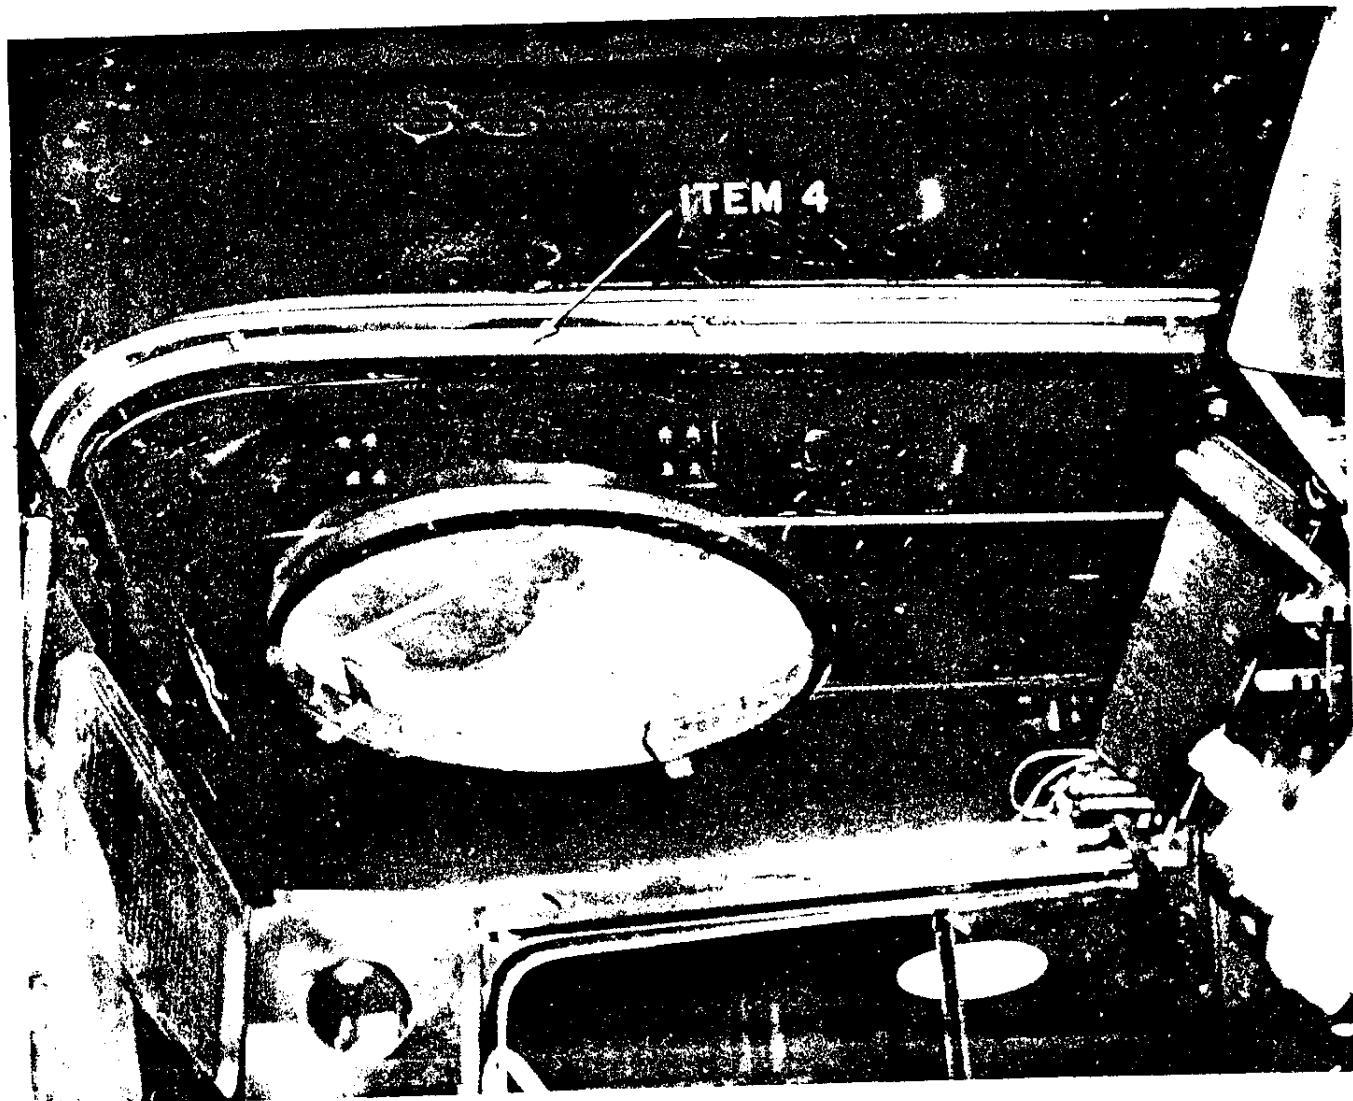

FIG 1 - POSITION OF ROOF SUPPORT
- c. Locate roof support, item 4, on the centre line on the inside of cab roof (fig 1).